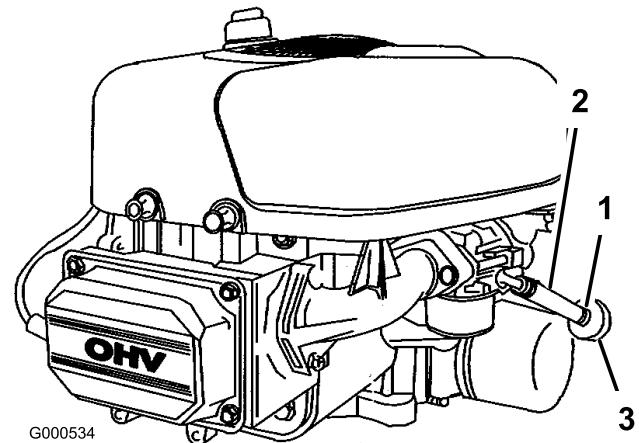

Figure 31
- Loosen the hose clamp at the fuel filter and slide it up the fuel line away from the fuel filter (Figure 31).
- Pull the fuel line off of the fuel filter (Figure 31).
7. Install the fuel line onto the fuel filter. Slide the hose clamp close to the fuel filter to secure the fuel line (Figure 31).
4. Squeeze the ends of the hose clamps together and slide them away from the filter (Figure 31).
6. Install a new filter with the flow direction arrow coming from the fuel tank and pointing to the engine and move the hose clamps close to the filter (Figure 31).